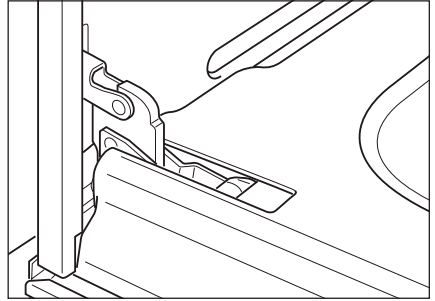

Fig.36a
- Open the door to its full extent (Fig. 36a).